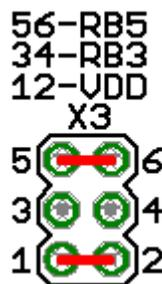

Figure 3
- Check whether 2 jumpers are installed to X3 jumper block. See Figure 3: